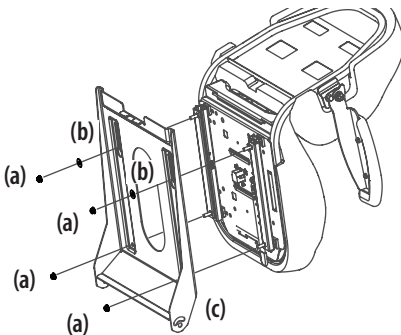

Figure 6
- b. For a Lever Adjust seat use flange lock nuts (a) and flat washers (b). See Figure 6.